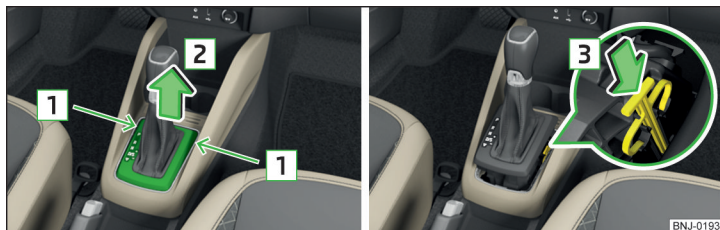

Fig. 175 Selector lever-emergency unlocking
- › Insert a flathead screwdriver into the gap in the arrow range [1] » Fig. 175 and carefully lift the cover in arrow direction [2].